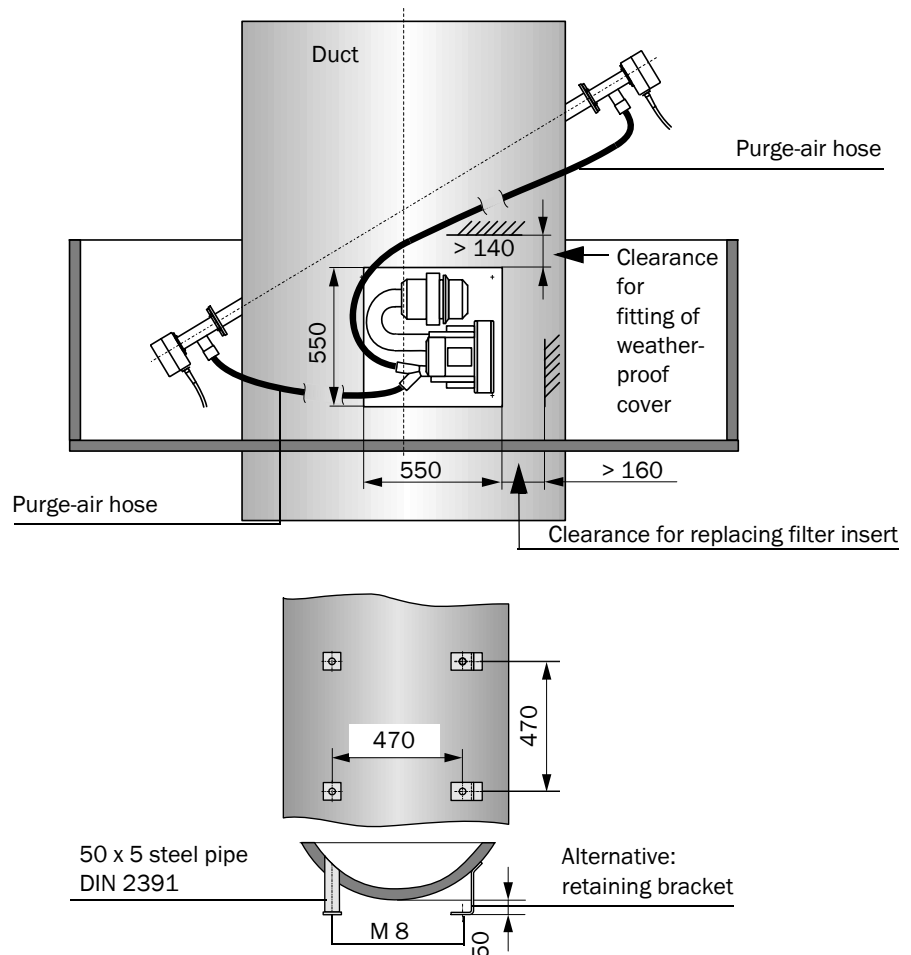

Fig. 3.15: Mounting the purge-air unit
- Sufficient clearance must also be provided for mounting and for raising the weatherproof cover, if the purge-air unit is mounted outdoors (see Fig. 3.15).
- Prepare the bracket as shown in Fig. 3.15.